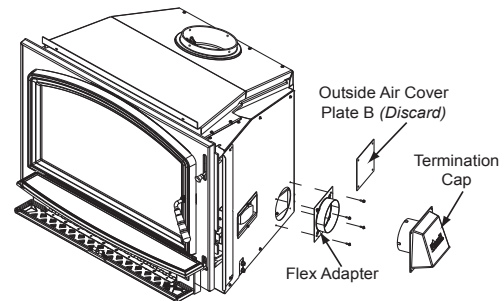

Figure 18.2
5. Remove the outside air cover plate B on outer can and discard (**Figure 18.2**).
14. Remove the outside air cover plate B on outer can and discard (**Figure 18.2**).